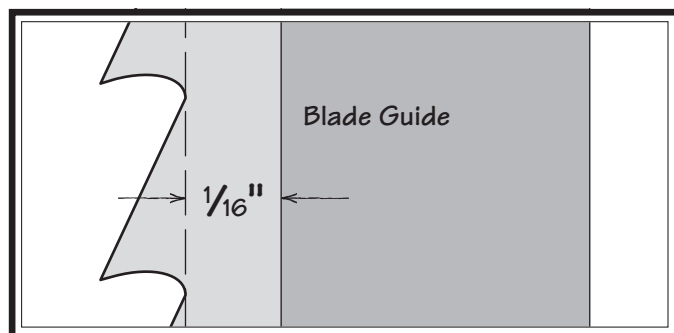

Figure 20. Blade guides positioned approximately $\frac{1}{16}$ " behind tooth gullets.
5. Position the blade guides so that they are approximately $\frac{1}{16}$ " behind the tooth gullets (see **Figure 20**), then re-tighten the blade guide bracket cap screw.